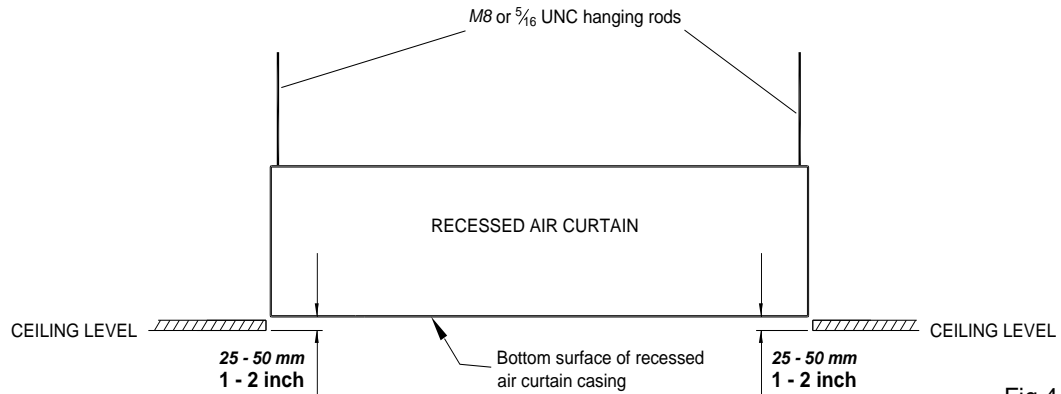

Fig 4
Step 4 Adjust the height of the unit on its hanging rods so the bottom surface of the casing goes between 25-50mm or 1 to 2 inches up into the ceiling as shown in Fig 4. Ensure the unit is level.